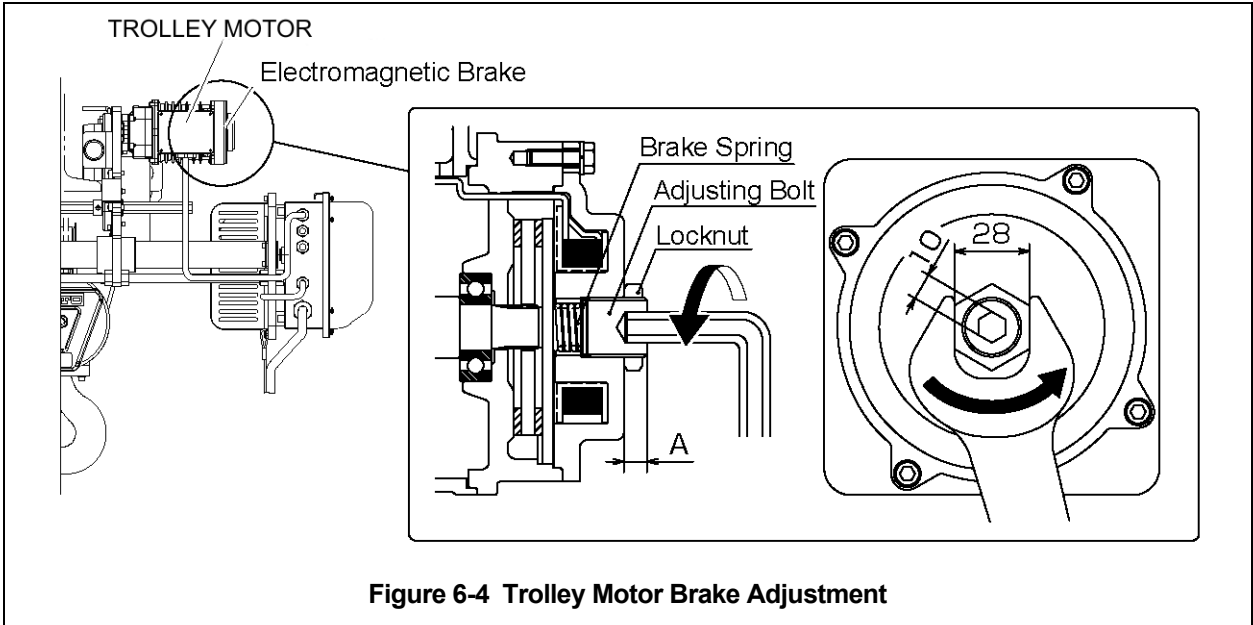

Figure 6-4 Trolley Motor Brake Adjustment
- 6.5.4 Motor Brake Check - See **Figure 6-4**.
- 2) The Trolley Motor Brake is factory set/adjusted for optimal brake force. The brake torque can be changed in accordance with brake wear. The brake torque can be changed by changing the projection amount (Dimension A) of the Adjusting Bolt on the back of the trolley motor. Using **Figure 6-4** and **Table 6-10** to adjust the trolley motor brake as needed.